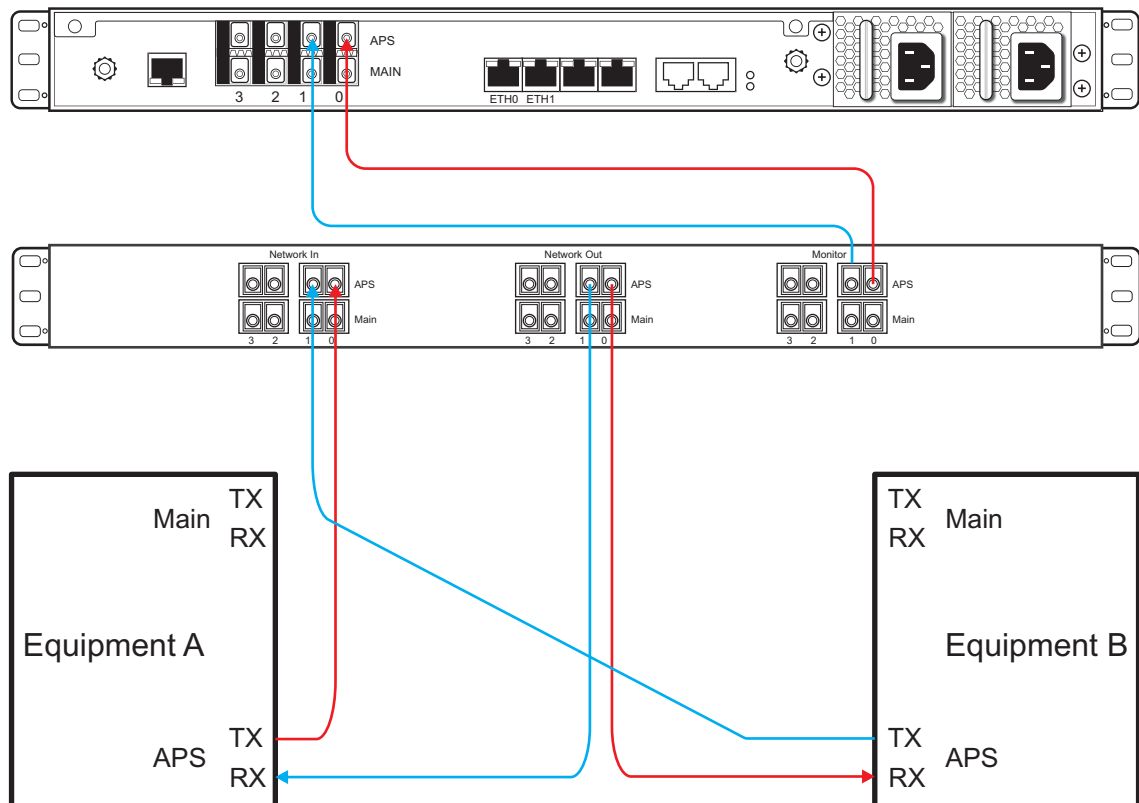

Figure 2.3 Connections for the Monitoring of Two **APS** STM1 Interfaces
1. Connect the TX fiber of equipment A to **APS 0** of the **Network In** region of the TM3000 patch panel, as shown in figure 2.3 on page 12.